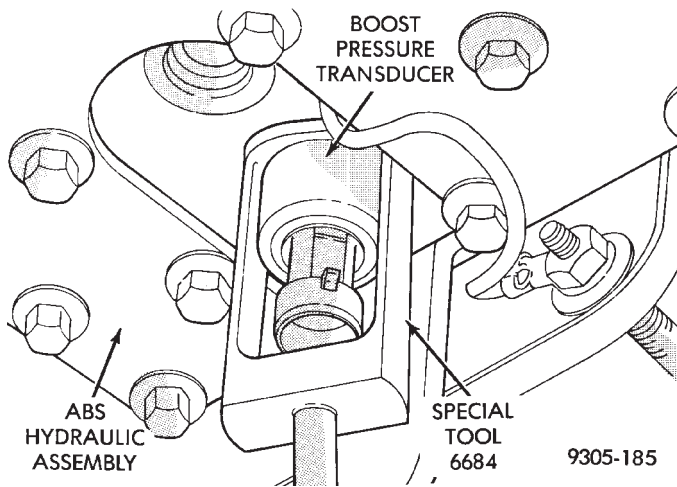

Fig. 4 Dual Function Pressure Switch Remove/Install
(4) Be sure that the hydraulic system is de-pressurized. Remove the dual function pressure switch from the hydraulic assembly using Socket, Special Tool 6607 (Fig. 4). Access to the switch is from under the vehicle using a long extension.
(1) Install the dual function pressure switch into the hydraulic assembly by hand until the O-ring seals are seated.
(2) Using Socket, Special Tool 6607, (Fig. 4) torque the dual function pressure switch into the hydraulic assembly to 12 N•m (9 ft. lbs.).